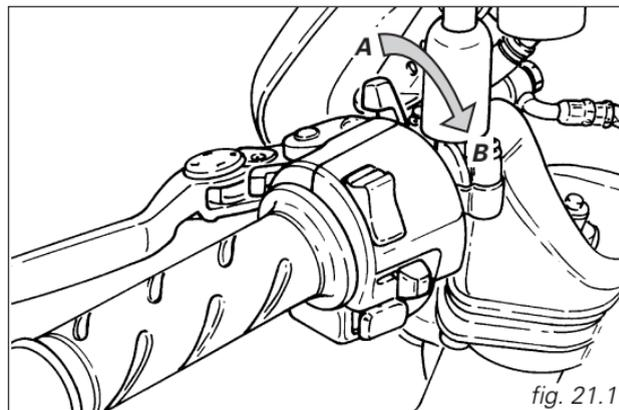

fig. 21.1
2) Move the fast-idle lever to position (B) (fig. 21.1).
4) Move the fast-idle lever towards its vertical position (A, fig. 21.1) until obtaining the engine speed: approx. 1400-1500 rpm.